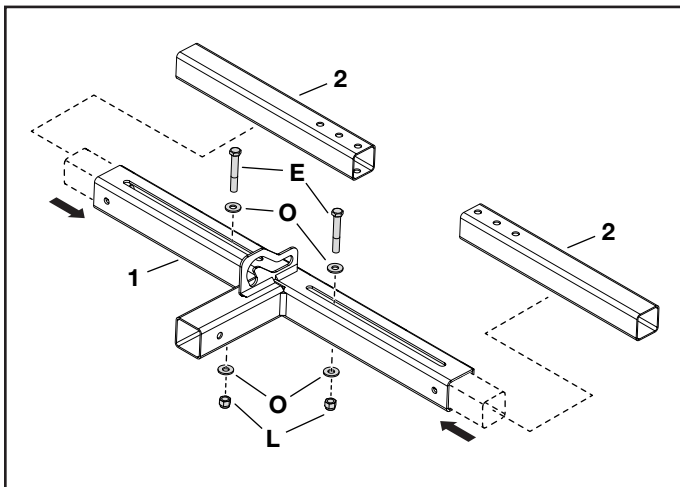

FIGURE 1
STEP 1: (SEE FIGURE 1)
- Insert a slider tube (2) into each end of the hitch mount assembly (1).
- Attach the slider tube to the hitch mount assembly using two hex bolts (E), four washers (O), and two Nylock hex nuts (L). Do not tighten.